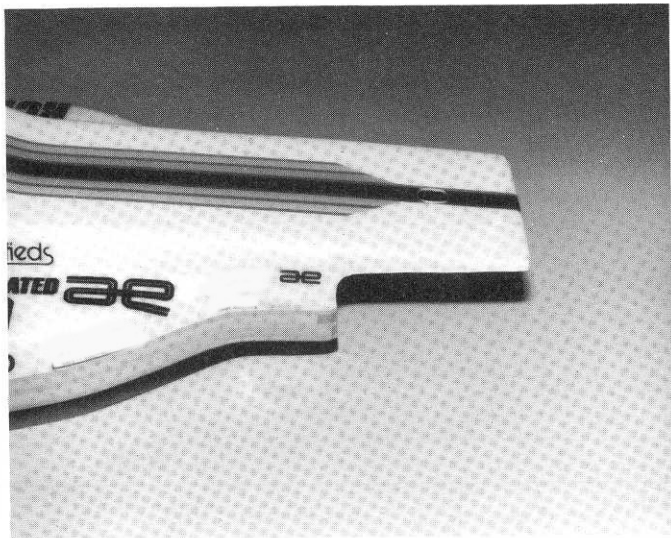

Fig. 131
□ **Fig. 131** The body can be painted before you mount it, however it might be easier for you to mount it while it's clear because it will be easier to locate the holes for the body mounts and wing tubes. This photo shows the trim lines for the front of the body and the front body mount hole.